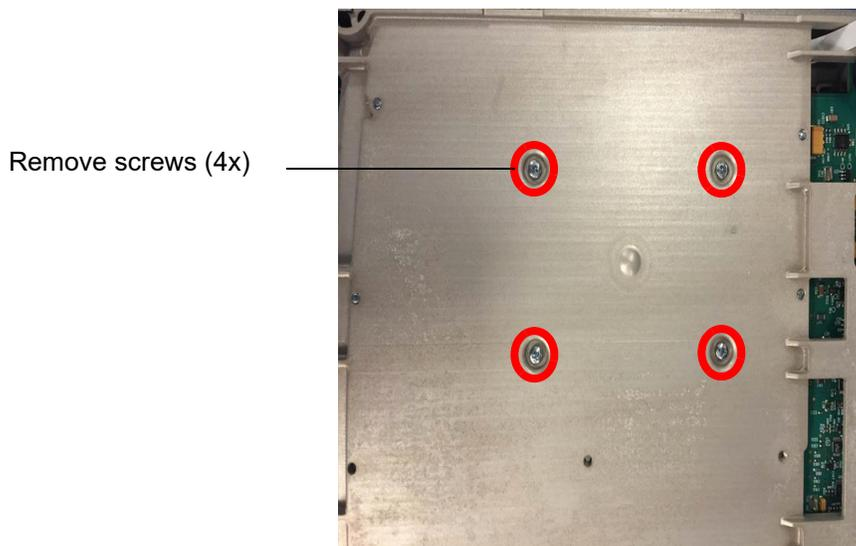

Figure 6.20 Nest Frame Removal
- 2 Flip Mid-Frame Assembly over and remove four screws securing the Nest Frame Assembly per Figure 6.20.
- 2 Tip Mid-Frame onto the side and Install Nest Frame Assembly with four screws as shown in Figure 6.20. Torque to 5.5 in-lbs.